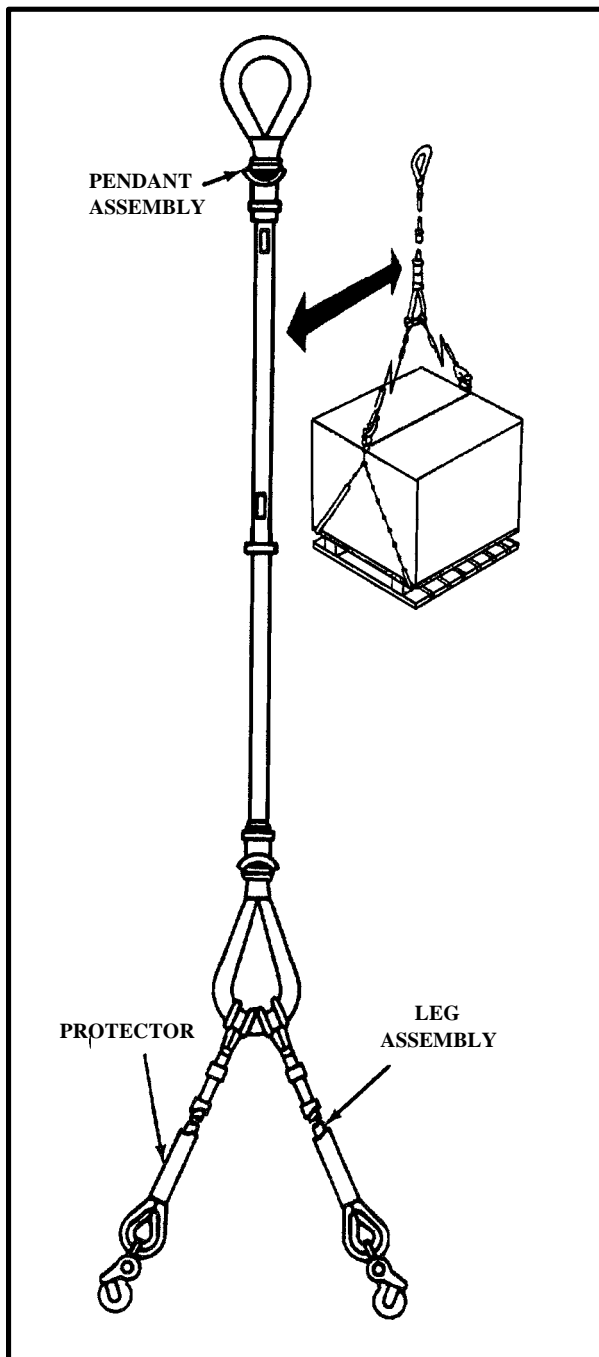

Figure 9-6. Hoisting Sling Mk 128 Mod O
**f. Hoisting Sling Mk128 Mod 0.** This sling consists of two parts: the pendant and the legs (two per unit). The pendant has a spliced eye at each end and a stiffening tube to allow for extended hookup (Figure 9-6). One eye attaches to the cargo hook. The other eye is for attachment of the leg assembly. The legs, color-coded green, have a spliced eye at one end and a hook at the other end. The legs are fastened to the eye of the pendant with a choker hitch. The entire assembly with one or more legs is rated at 4,000 pounds.